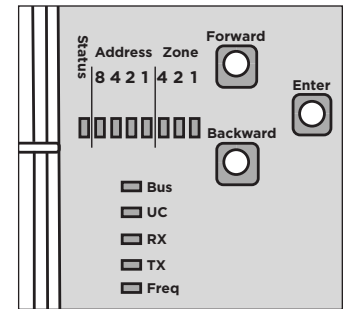

Figure 4: Learn In LEDs and Buttons
- d. Connect the black wire to the **GND(B)** terminal while pressing the Enter button. See Figure 4. This clears the 738T's memory and prepares it for programming.
The 738T allows you to easily switch between 319.5 MHz and 345 MHz by pressing the **Enter** button on the PCB. Use the **Freq** LED to determine which frequency is currently selected. See Figure 4 for the button and LED locations.
1. Get the 738T ready to learn in transmitters by pressing the **Forward** and **Backward** buttons at the same time. See Figure 4. The **Address** LEDs will light up, displaying an address. The default is address 5.